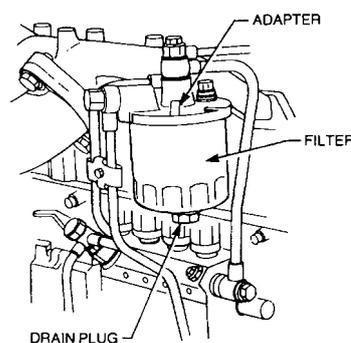

Figure 24 Fuel Filter Installation
- dd. Ensure that the filter drain plug is securely installed (Figure 24).